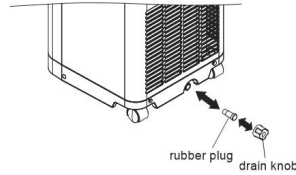

FIG.13
2. Remove the drain knob and rubber plug and retain for future use. (FIG.13)